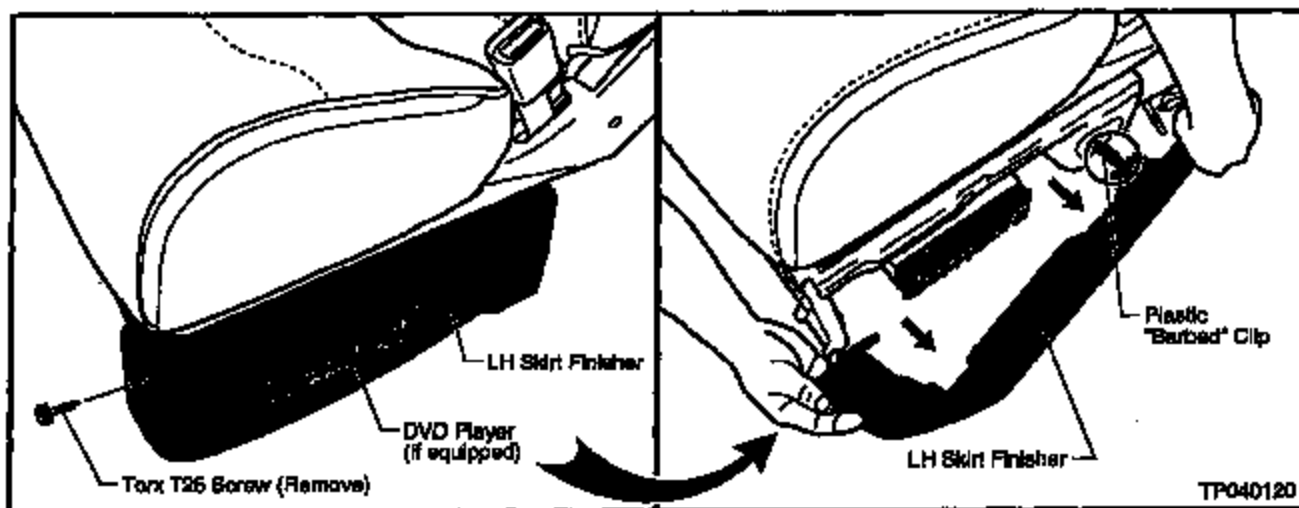

Figure 6
- a. Use a Torx T25 to remove the Screw at the front end of the Finisher (see Figure 6).
- b. Carefully pull out (towards the inside of the vehicle) on the Finisher to release any securing clips (see Figure 6).